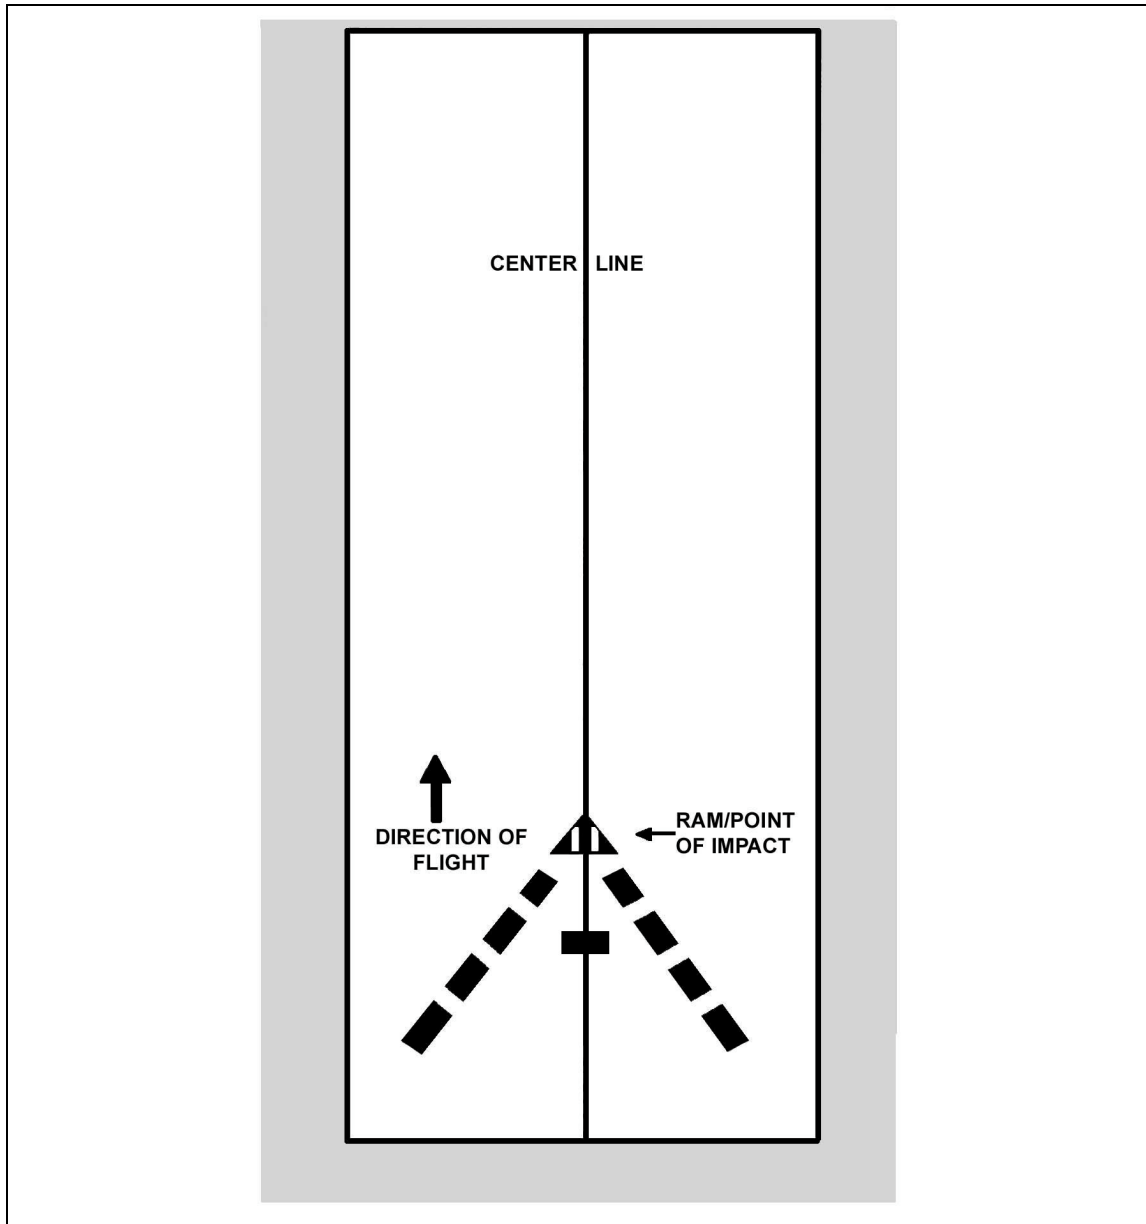
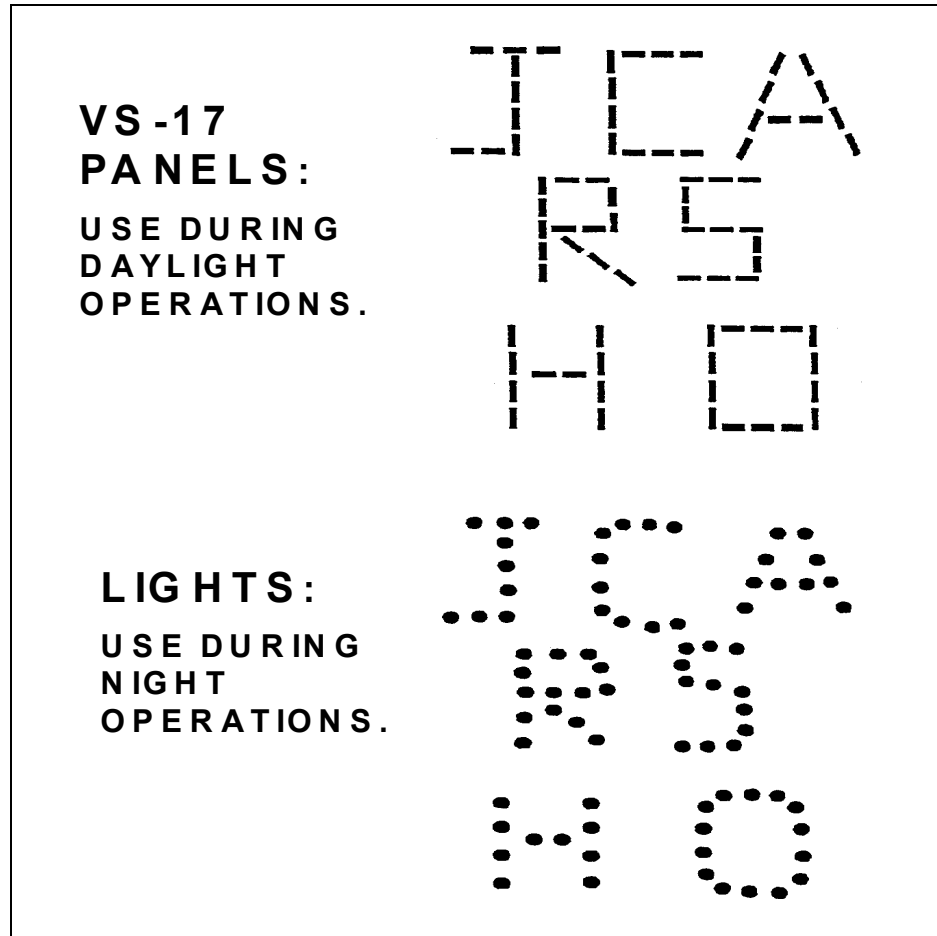

Figure 6-14. Drop zone placement (day).
Figure 6-15. Code letters.
(1) **Day Operations.** For day operations (Figure 6-14, page 6-28), pathfinders mark the point of impact with a RAM (raised-angle marker, Figure 6-5, page 6-15) and an Air Force code letter, which could be a "J," "C," "A," "R," or "S" (Figure 6-15, page 6-29). This applies to rectangular drop zones. They use "H" or "O" for circular drop zones. Each letter must measure at least 35-foot square, and requires at least nine panels flat on the ground.